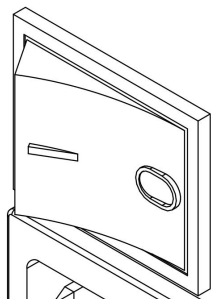

Figure 4- 12 Control cabinet power switch
Step5. After powering on, switch the switch from "0" to "I" (refer to Figure 4- 12), start the control cabinet, at the same time the switch indicator lights up, and the teach pendant starts.